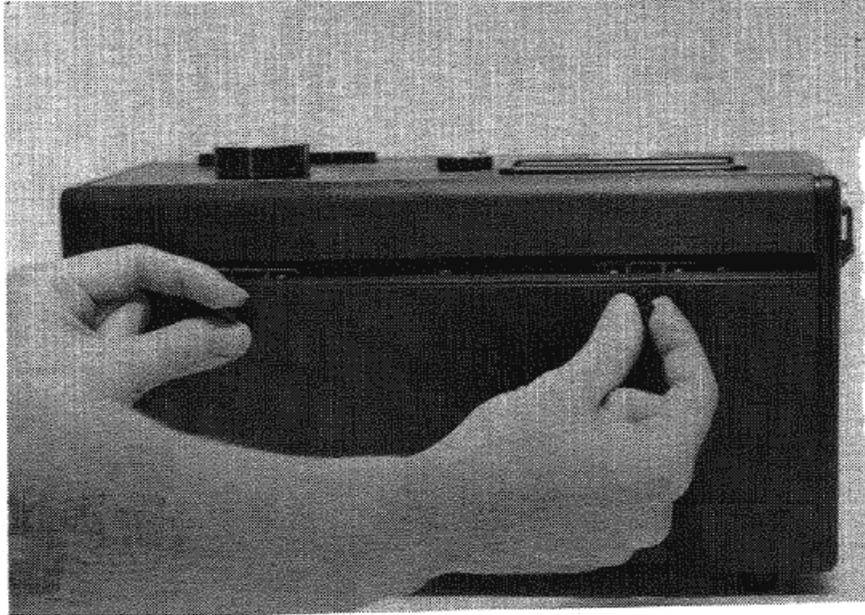

Figure 29. Removing the inlet panel
Step 1. Remove the panel that contains the sampling inlet by pulling up on the small nylon locks (Figure 29).